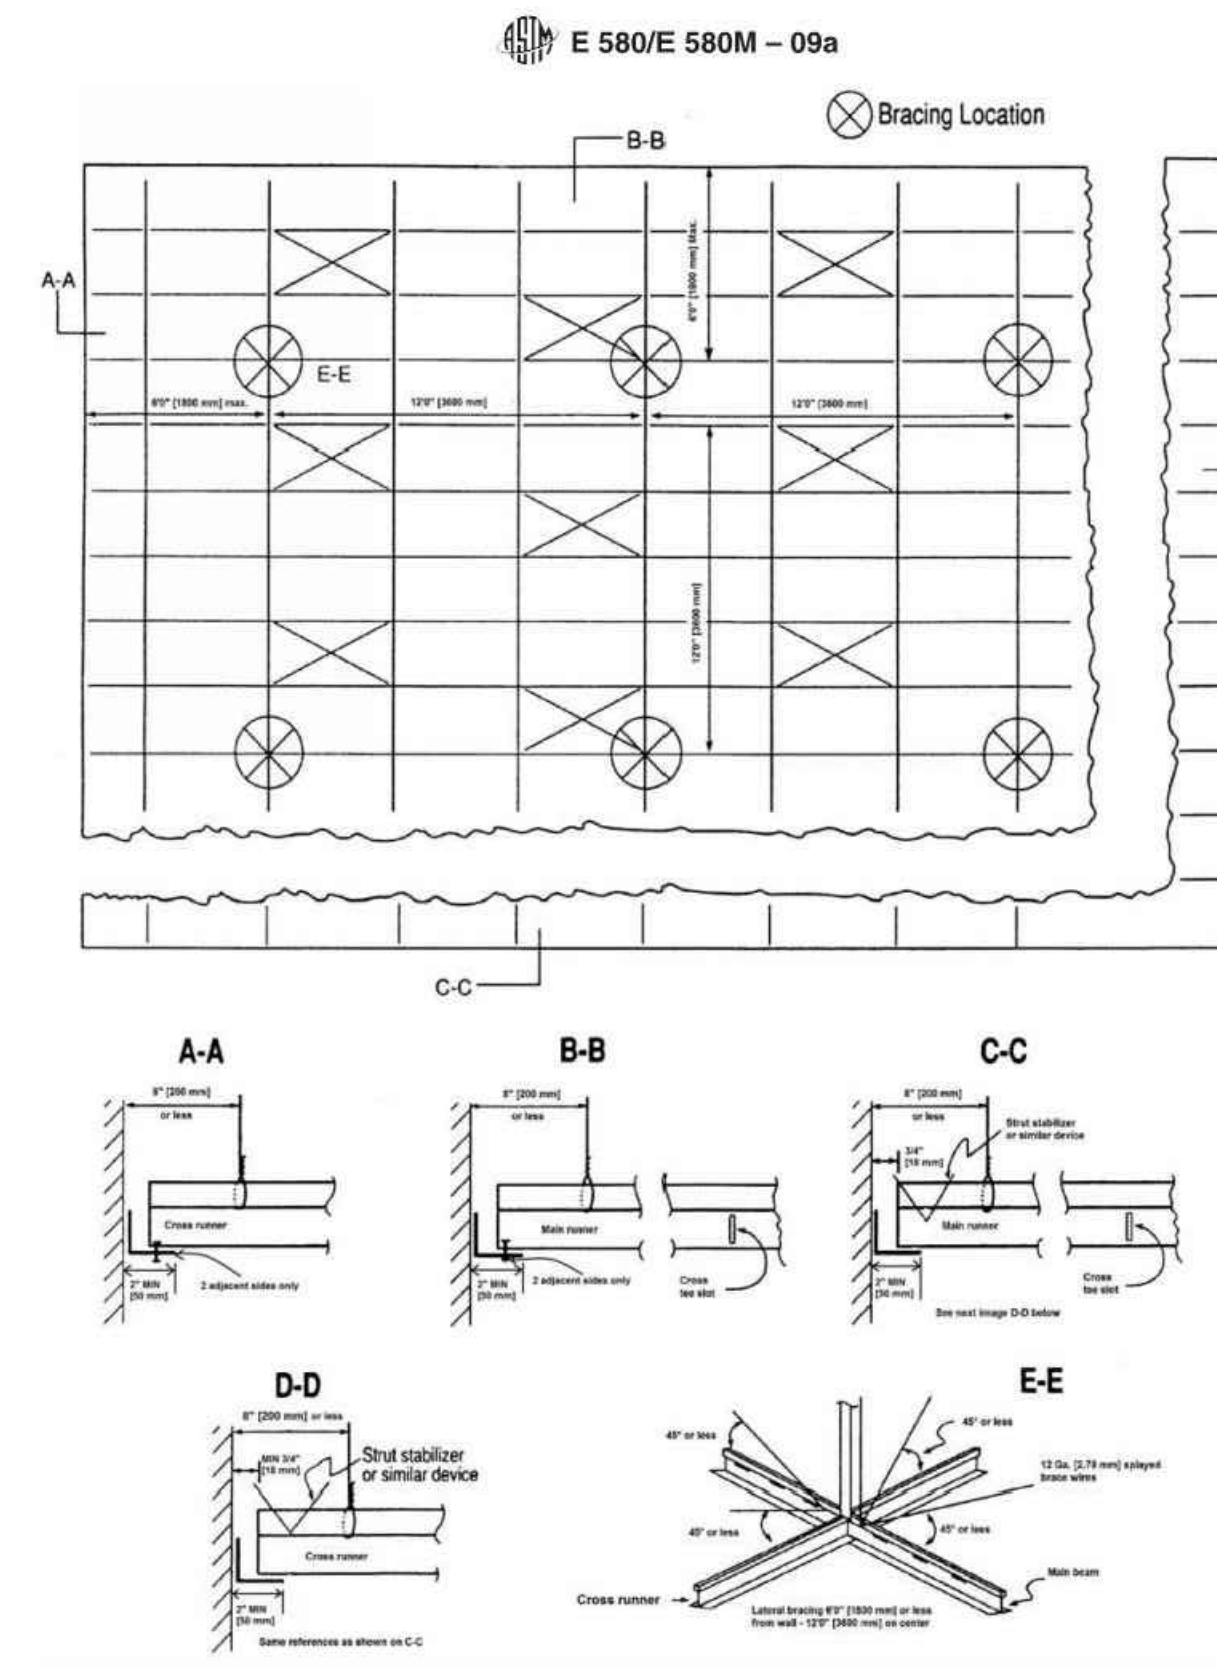

FIG. 4 Categories D, E & F Treatments
5.2.3 Main runner and/or cross runner ends shall be attached to the perimeter on two adjacent walls. A clearance of 3/4 in. [18 mm] shall be maintained between the main runner and cross runner ends and the perimeter members on the two opposite walls (see Fig. 4, C-C). On the walls where the terminal end runners are not fixed to the perimeter supporting closure, allow for 3/4 in. [18 mm] axial movement.
5.2.6 The terminal end of each cross runner and main runner shall be supported independently, a maximum of 8 in. [200 mm] from each wall or ceiling discontinuity with No. 12-gauge [2.70 mm] wire or approved wall support. See Fig. 4.